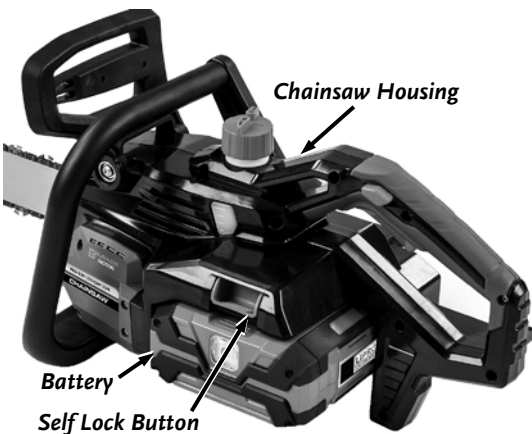

Figure 11
1. Slide the Battery Pack into the Battery cradle on the Chainsaw Housing, aligning the ribs in the cradle with the slots in the Battery until it is latched into place (**Figure 11**).